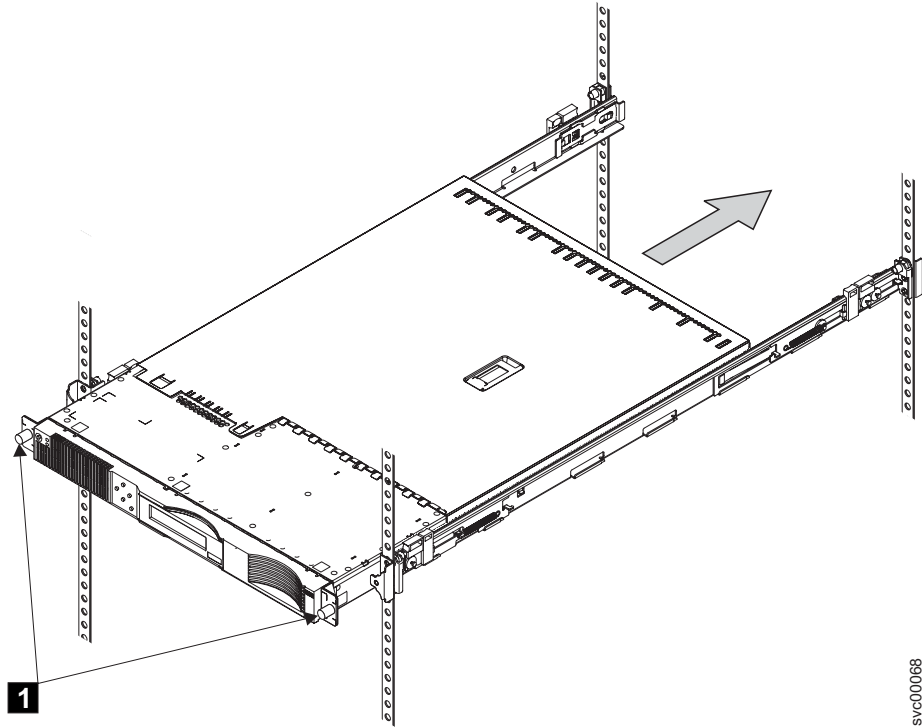

Figure 101. Attaching the SAN Volume Controller 2145-4F2 with the front screws
2. For the SAN Volume Controller 2145-8F2, latch the two latches on the front of the rack to attach the SAN Volume Controller to the rack. For the SAN Volume Controller 2145-4F2, screw in the two front screws **1**. See Figure 101 on page 275.
Note: The front of the SAN Volume Controller 2145-8F2 rail assembly appears different than in Figure 101 on page 275.